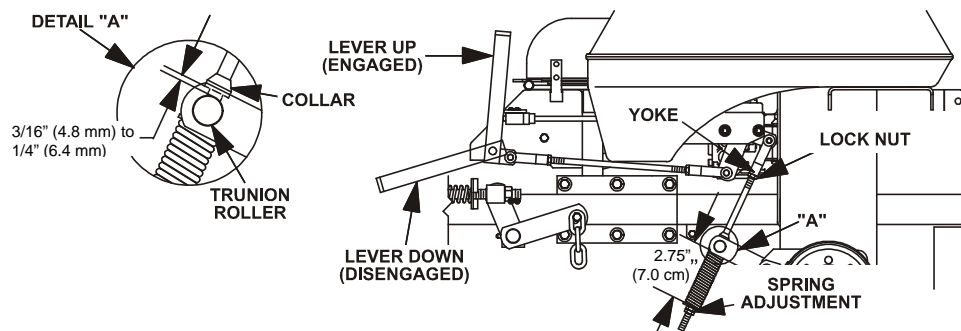

FIGURE 14
- b) Measure the length of the spring. Measurement should be 2.75" (7.0 cm) between washers (see Figure 14).
- c) Measure the distance between the trunion roller and the rod collar. Measurement should be 3/16" (4.8 mm) to 1/4" (6.4 mm). See Figure 14.
- d) If adjustment is necessary, loosen the nut directly below the yoke. Turn the bottom nut (below washer) until the correct measurement is obtained (See Figure 14) turn nut clockwise to lengthen the gap (screws rod into yoke) and turn counter-clockwise to shorten the gap (screws rod out of yoke). Tighten nut against yoke and check opposite side of unit, repeat if necessary.